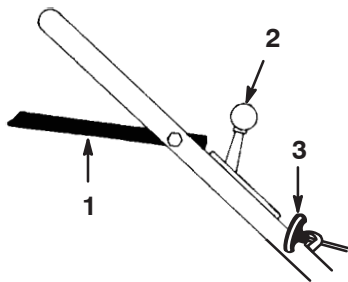

Figure 10
The blade control bail, throttle control, and starter handle are on the upper handle as shown in Figure 10.
3. Move the throttle control to the (Choke) position (Fig. 10).